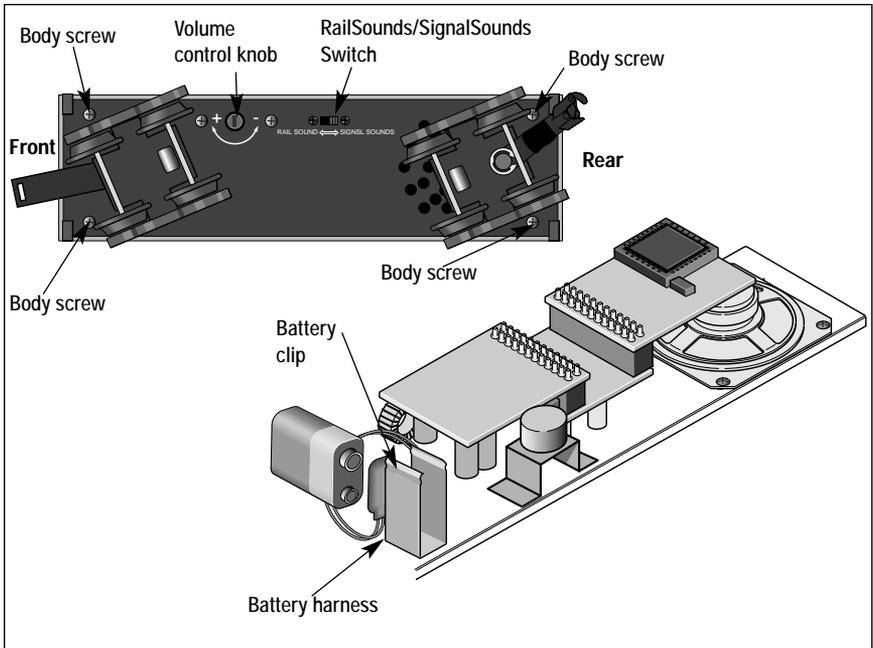

Figure 4. Servicing the tender
While the RailSounds sound system is powered through the track, we recommend that you install a nine-volt alkaline battery in the tender to prevent the sound system from shutting down during track power interruptions (for example, at a switch or a dirty section of track). Follow these steps and refer to Figure 4 on page 11 as you install the battery.
1. Remove the body screws from the underside of the tender. Refer to Figure 4 on page 11 for the location of the screws.